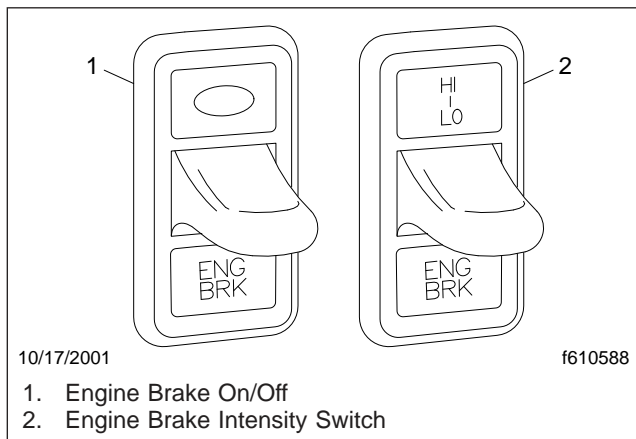

Fig. 10.4, Engine Brake Switches
- The On/Off switch (ENG BRK), is used to turn the engine brake on and off. See Fig. 10.4. When the engine brake is on, an amber light will illuminate behind the switch.
2. Press the On/Off switch to toggle the engine brake on. See Fig. 10.4. The engine brake will engage at the rate last set on the brake intensity switch.